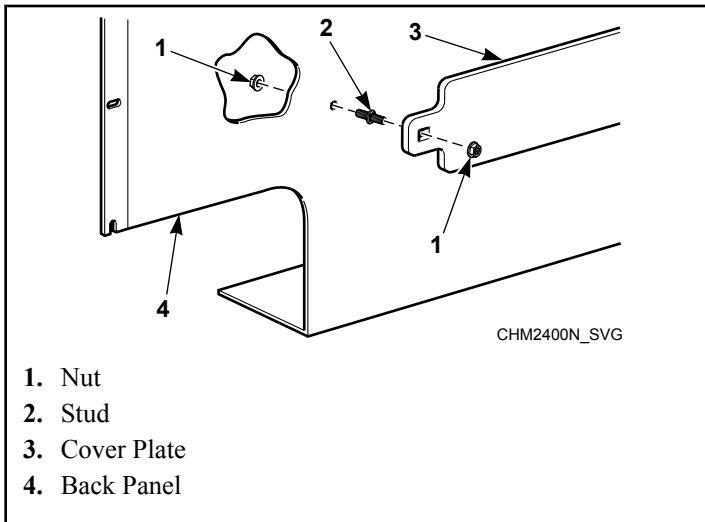

Figure 14
3. Remove all hardware holding cover plate on back panel, refer to *Figure 14*. DO NOT DISCARD HARDWARE.